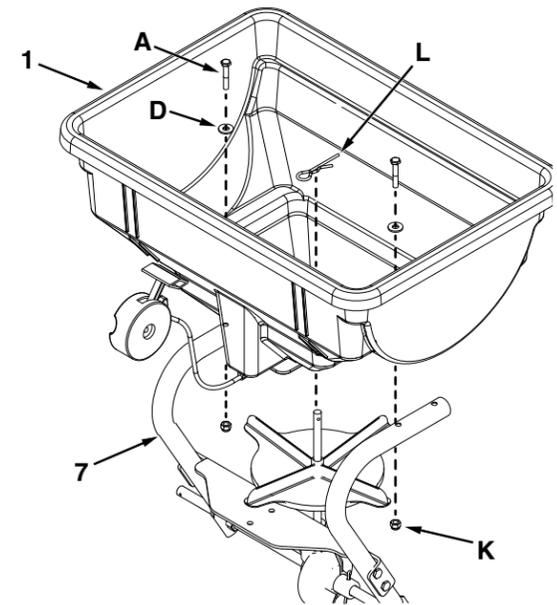

Figure 5
STEP 5 (SEE FIGURE 5): Attach the hopper (1) to the frame assembly using two 1/4 x 1-3/4" hex bolts (A) and 1/4" nylock nuts (K). Insert the hairpin agitator (L) into the impeller shaft making sure that it is secured in place and horizontal.